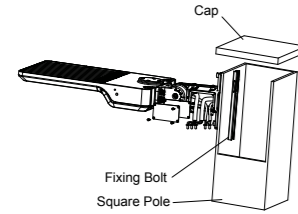

Figure 17
- Step 2: Fix the A&D bracket to the square pole with bolt, open the cover of A&D bracket junction box, pull the wires into bracket junction box, connect the wirrs properly and cover the junction box (Figure 17)
- NOTICE: Adjustable angle range is 0-90° (Figure 17)